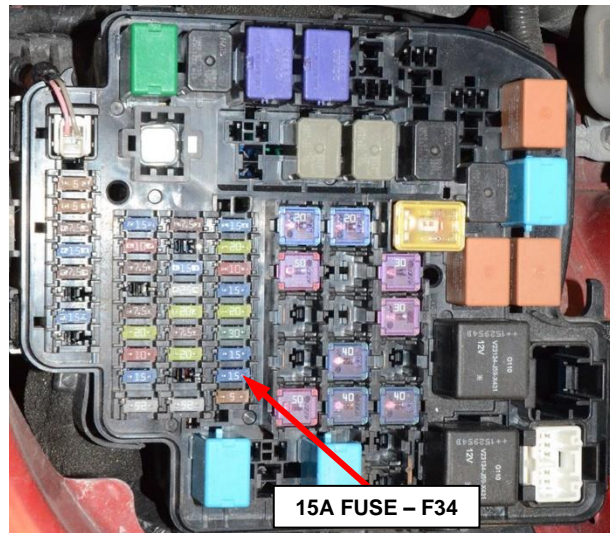

Figure 2 – Fuel System Fuse
3. Remove fuel system fuse F34 (15A) (Figure 2).
7. Install the F34 fuse removed previously then close the fuse box cover (Figures 2 and 1).